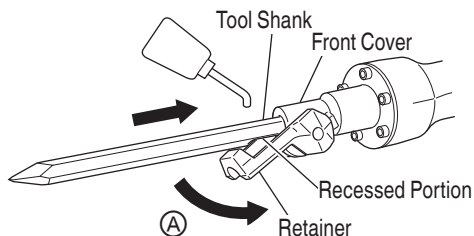

Fig. 5
- (1) Clean, then smear the accessory shank portion with grease or machine oil.
- (2) Move the retainer to position ㊸. Align the accessory shank portion so that its recessed portion is under clamp and seat the accessory such as a bull point, a cutter, etc., in the hexagonal hole in the front cover (See Fig. 5).